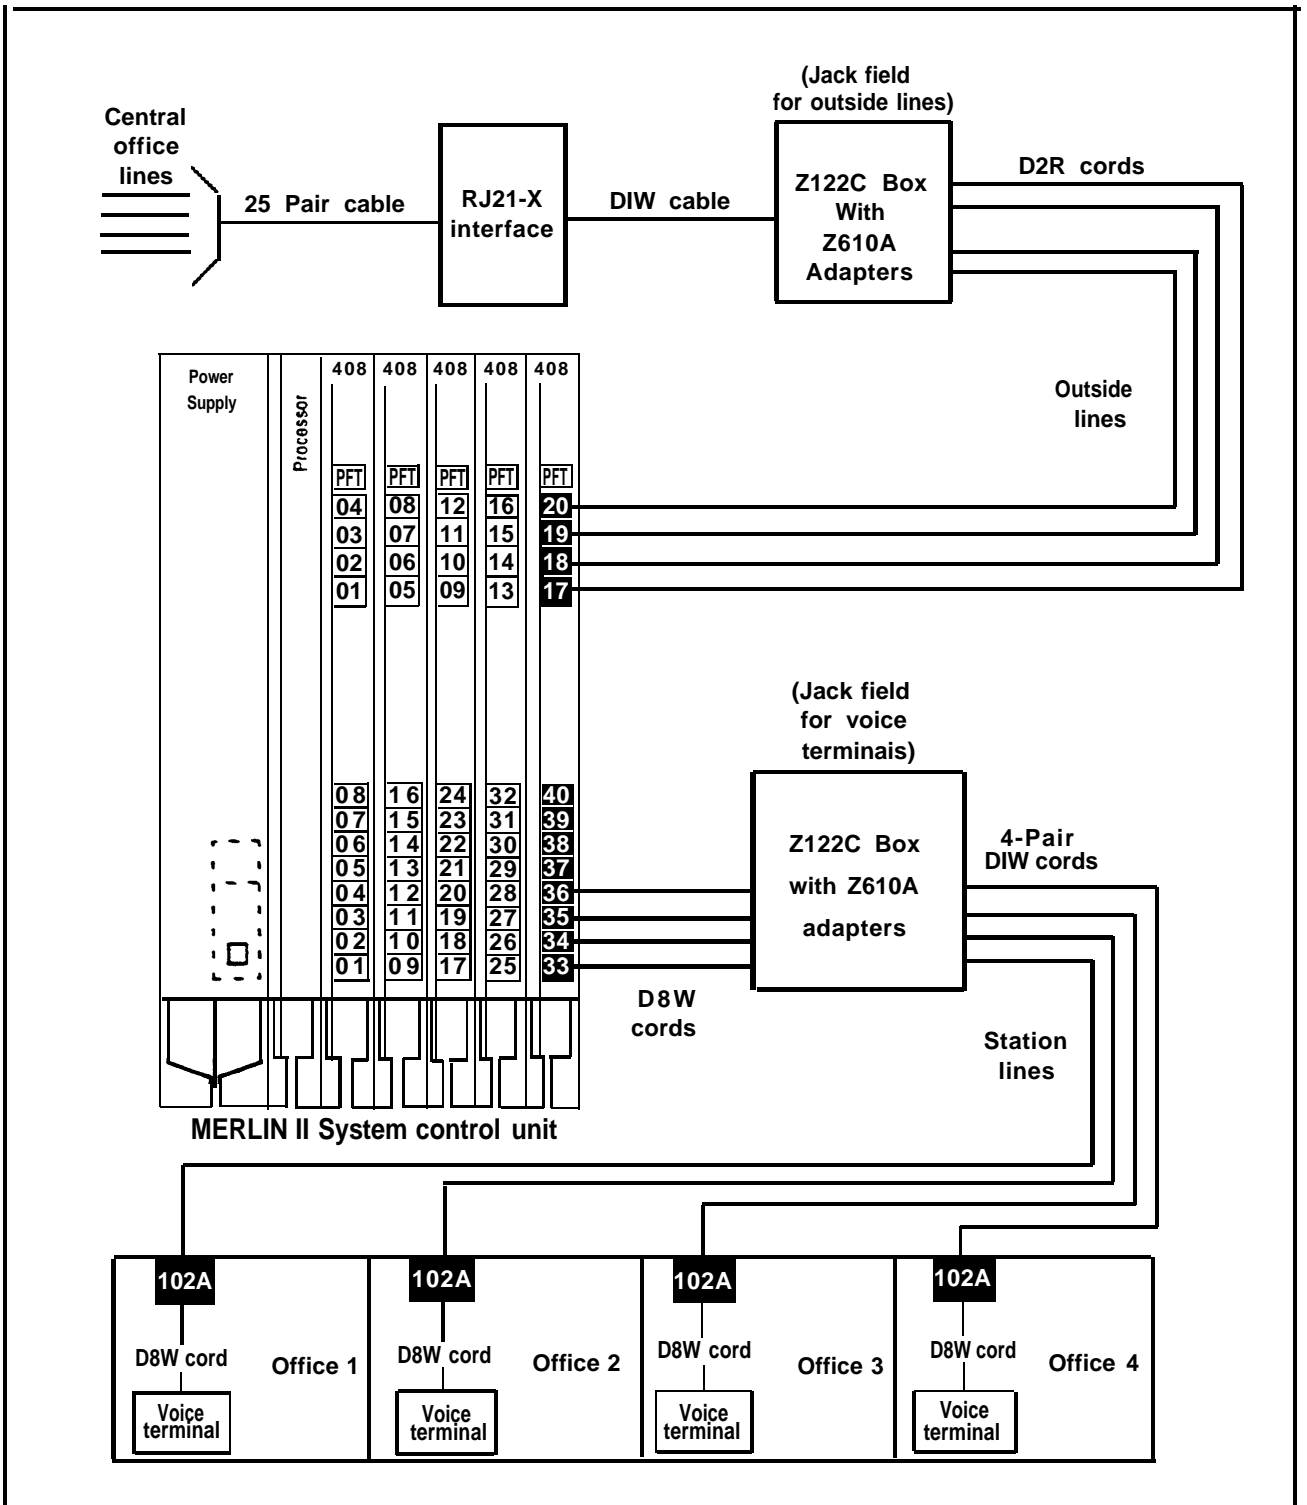

FIGURE 2-2 Typical MERLIN II system wiring installation.
Figure 2-2 illustrates typical MERLIN II system wiring. Central office lines enter the site through a 25-pair cable. The network interface in this example is a 66-type block configured as an RJ21-X-type connector. From the network interface, a DIW cable takes the 25 lines to a jack field for outside lines. The jack field interfaces the outside line wiring with D2R cords that plug into the line jacks on the control unit modules. At this point, outside lines are connected to the control unit.
- 2 Number sequentially from 01 to 56 every outside line jack on the modules using the outside line numbering strips. Begin with the module in slot 1, numbering from bottom to top and working from left to right across the control unit (See Figure 2-2 on page 2-13 for the numbering sequence.)
- 1 Number every station jack on the modules sequentially from 01 through 120, using the station numbering strips. Begin with the module in slot 1, and number from bottom to top, then continue from left to right across the control unit (See Figure 2-2 on page 2-13.)